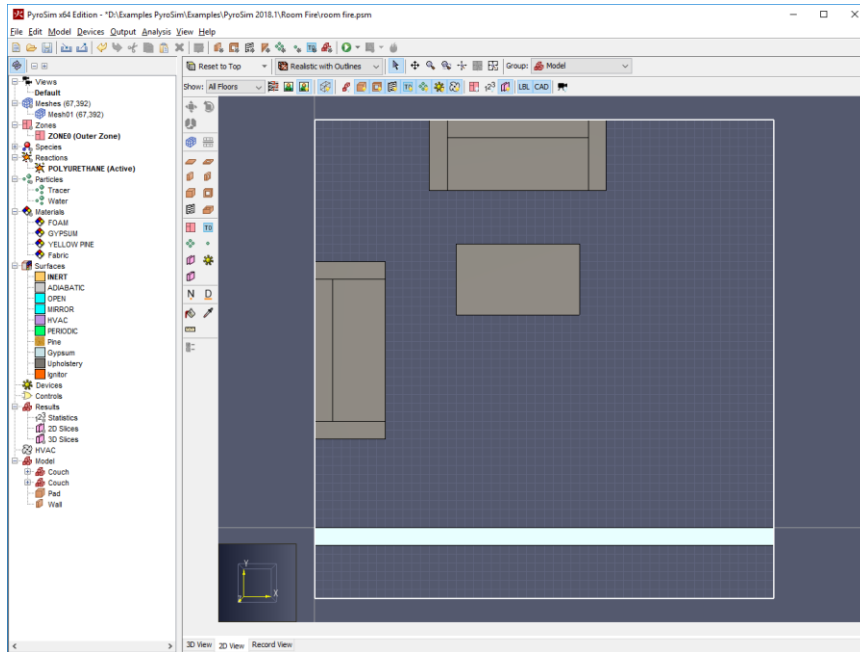

Figure 7. Drawing the wall
4. With the wall tool draw the wall from left to right along the Y=0 line. Press the CTRL key to flip the wall to the lower part of the model, Figure 7.